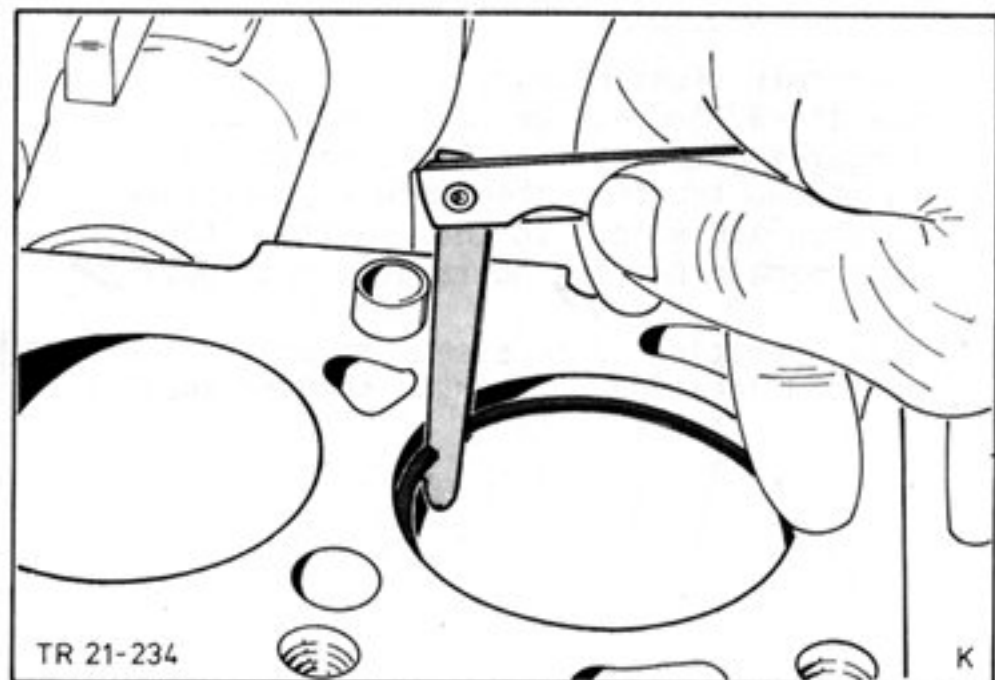

Fig.48. Check piston ring gaps.
4. Before installing the pistons, check the piston ring gaps, Fig.48. The stated dimensions (see Technical Data) relate to the gauge ring used in production and can be exceeded by up to 0,15 mm (0,006 in.) when measured in the cylinder.